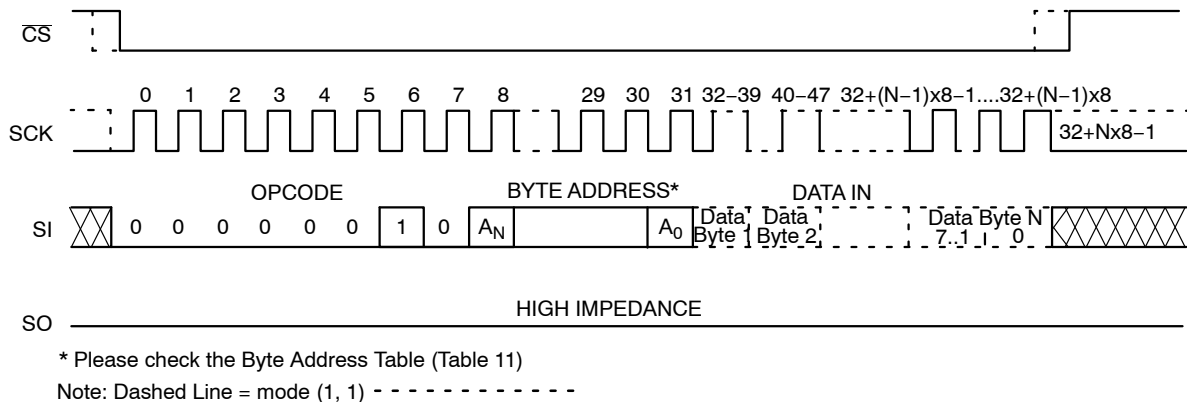

Figure 6. Page WRITE Timing
After sending the first data byte to the CAV25M01, the host may continue sending data, up to a total of 256 bytes, according to timing shown in Figure 6. After each data byte, the lower order address bits are automatically incremented, while the higher order address bits (page address) remain unchanged. If during this process the end of page is exceeded, then loading will "roll over" to the first byte in the page, thus possibly overwriting previously loaded data.
The additional 256-byte Identification Page (IP) can be written with user data using the same Write commands sequence as used for Page Write to the main memory array (Figure 6). **The IPL bit from the Status Register must be set (IPL = 1) using the WRSR instruction, before attempting to write to the IP.**